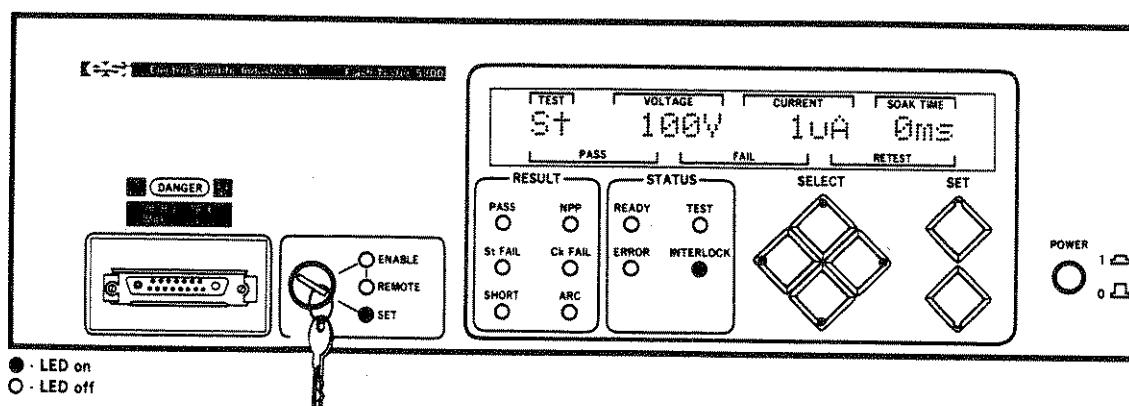

Figure 3-59. Set Mode Display
- STEP 1. Display the Stress Test screen by pressing the UP or DOWN pushbuttons until "St" appears at the left side of the display. Refer to Figure 3-59.
- STEP 2. Turn the access keyswitch to the SET position to enter the Set mode. The front panel should appear as shown in Figure 3-59, although different numbers may appear in the display.